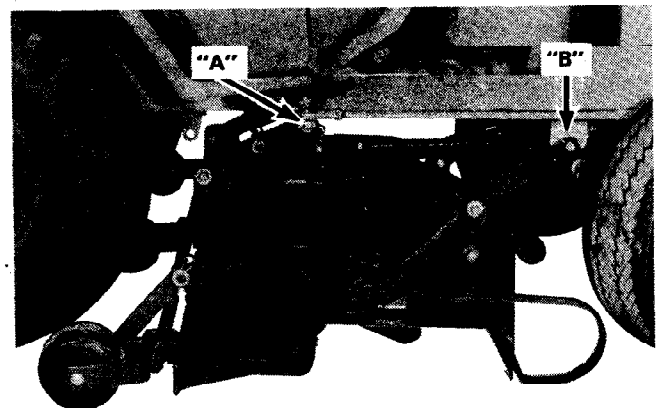

FIGURE 5
2. Pin mower rear link assemblies (through top hole) to the OUTSIDE of tractor rear hitch supports "A" Figure 5, located just forward of the tractor hydraulic lift arms on the inside of main frame. Use clevis pins, flat washer and spring cotters, inserting clevis pins from inside out, flat washer to the outside between link and spring cotter.
3. Pin mower front hitch arms (through top hole) to the OUTSIDE of tractor front hitch supports "B" Figure 5, located approximately six inches behind the front axle. Use clevis pins and spring cotters, inserting clevis pins from outside in.